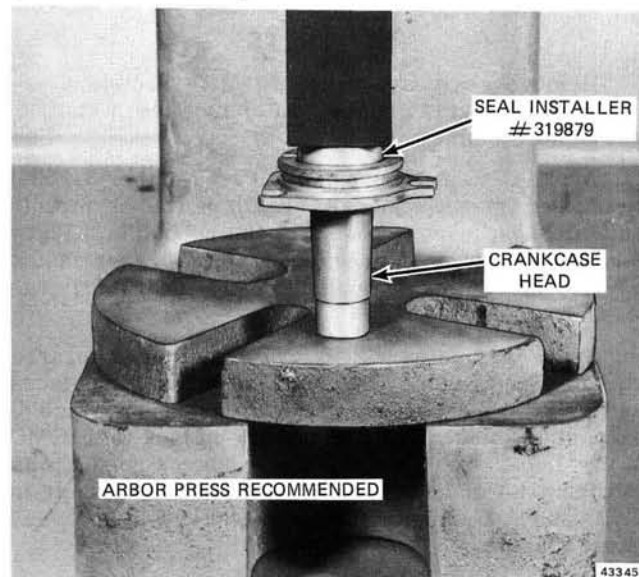

Figure 5-43. Installing Seal
f. Install new seal in crankcase head, lip facing up, using seal installer (Special Tool #319879). See Figure 5-43. Place new "O" ring in groove in crankcase head and install on crankcase. Torque screws to specifications in Section 2.